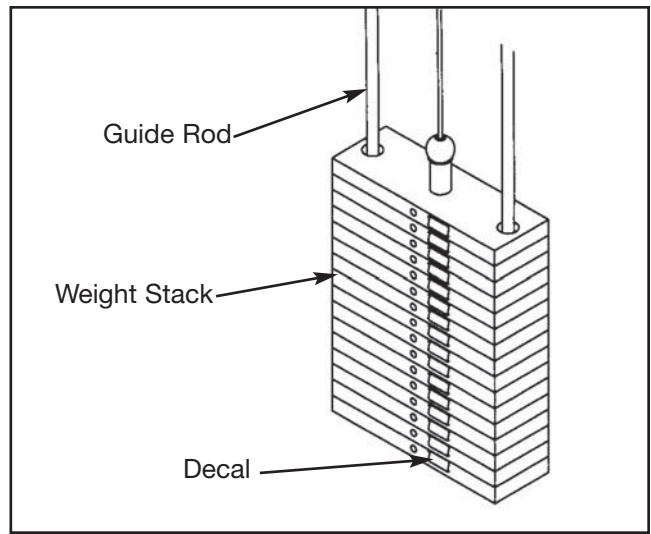

Figure 24
- G.** Carefully remove front side, leaving decals adhering to weight plates. See Figure 24